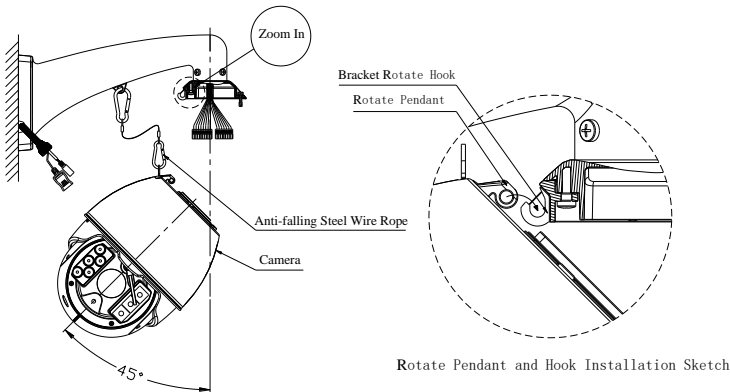

Fig 3
Step 3: install the anti-falling steel wire rope to dome camera and connect with wall-mounted bracket, hold the camera in both hand by 45°, fix the rotate pendant on the camera to the rotate hook on bracket(as Fig 3)